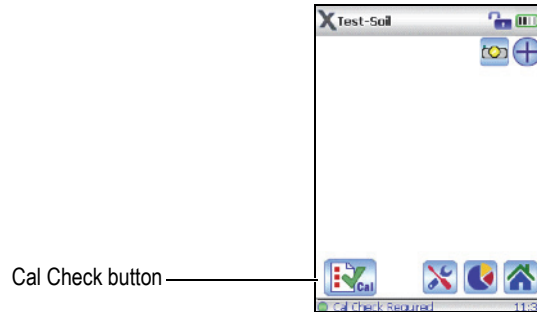

Figure 6-3 Cal Check Required message
6. Navigate to the **Test Setup** screen, and then tap the Cal Check button (see Figure 6-3 on page 16).